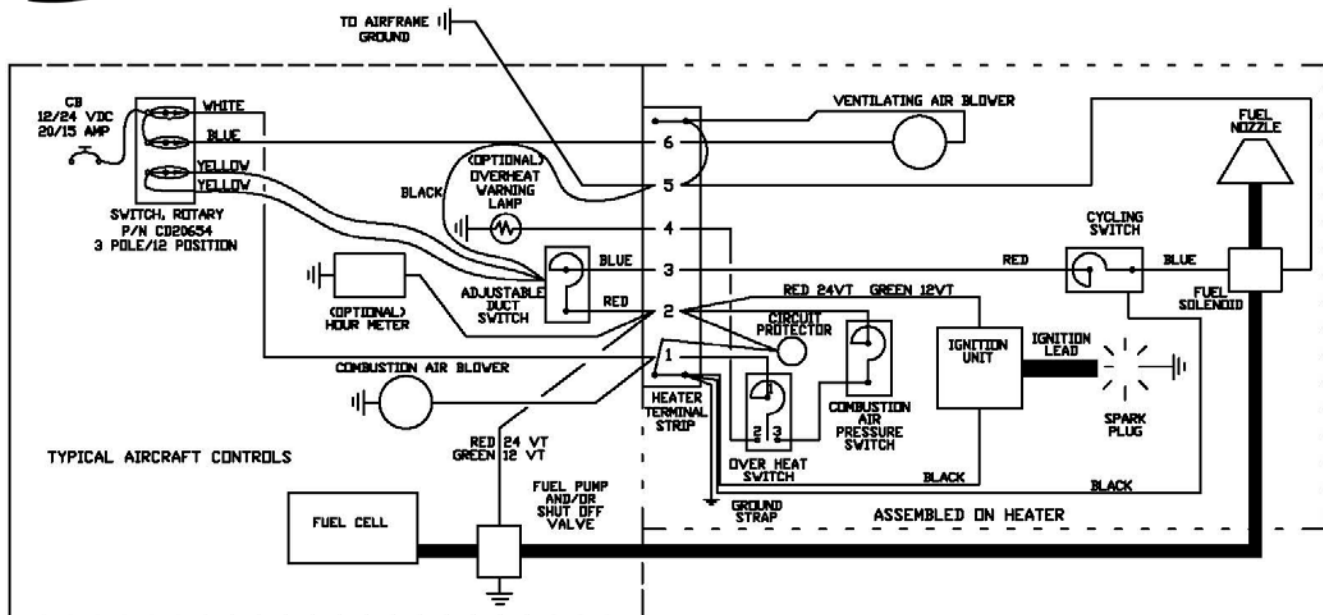

FIGURE 3
- 3.2. Heater Electrical Connection (Figure 3): Remove the old heater control switch. Locate and identify the wire running from the heater circuit breaker to the old heater switch. Marking on this old wire will be H3A. This wire is to be connected to the red wire on the new switch. Route the remaining wires (blue, white, and two yellow) to the new heater. Secure in route in accordance with AC 43.13-1A Chapter 12 for Electrical applications. The blue wire from the new switch is for the vent fan and will be connected to the heater terminal number 6. The white wire is connected to the heater terminal strip number 1.